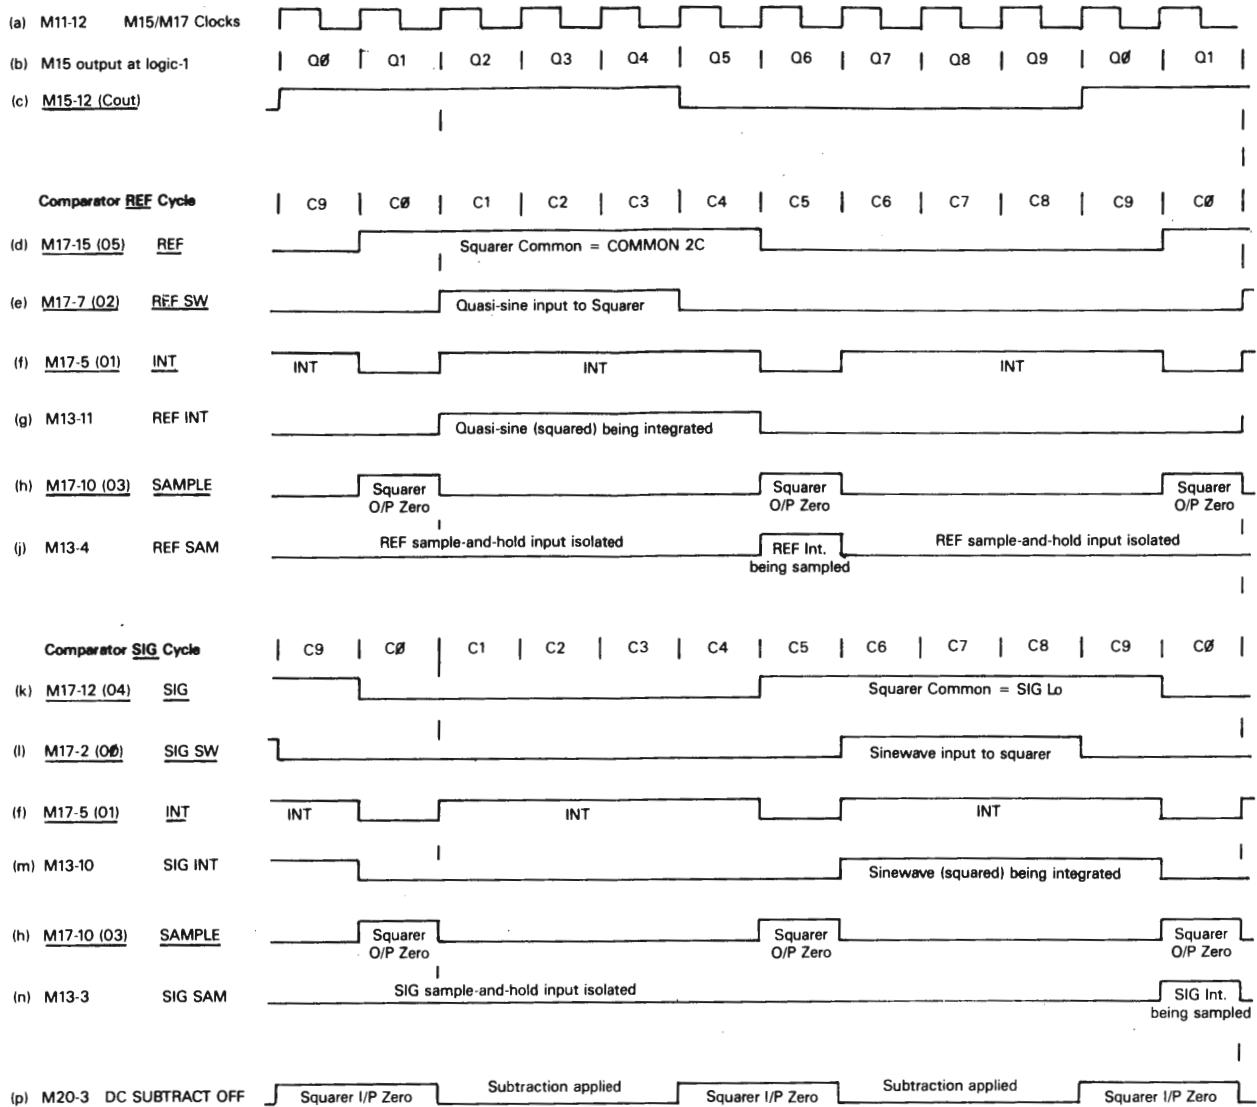

FIG. 9.13 COMPARATOR TIMING LOGIC
9.9.5 COMPARATOR TIMING LOGIC [Fig. 9.13]
The comparator timing waveforms for the sequence are illustrated in Fig. 9.13. To highlight the data delay, the main waveforms are grouped into two blocks: 'REF' and 'SIG', each headed by the states of the comparator cycle. Line (b) shows which of M15 (Q) outputs is at logic-1 during each of the states. It can be seen that the effects of M15 output states are delayed by 1 clock period, in the translation to comparator states.